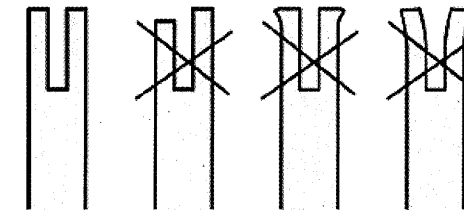

Fig. 46
5. Check the guide bar 'rail' for wear: Hold a ruler (straight edge) against the side of the guide bar and 'cutter side plates'. If there is a gap between the ruler and guide bar the guide bar 'rail' is normal. If there is no gap (ruler flush against the side of the guide bar) the guide bar 'rail' is worn and needs to be replaced with a new one of the same type (Fig. 46).